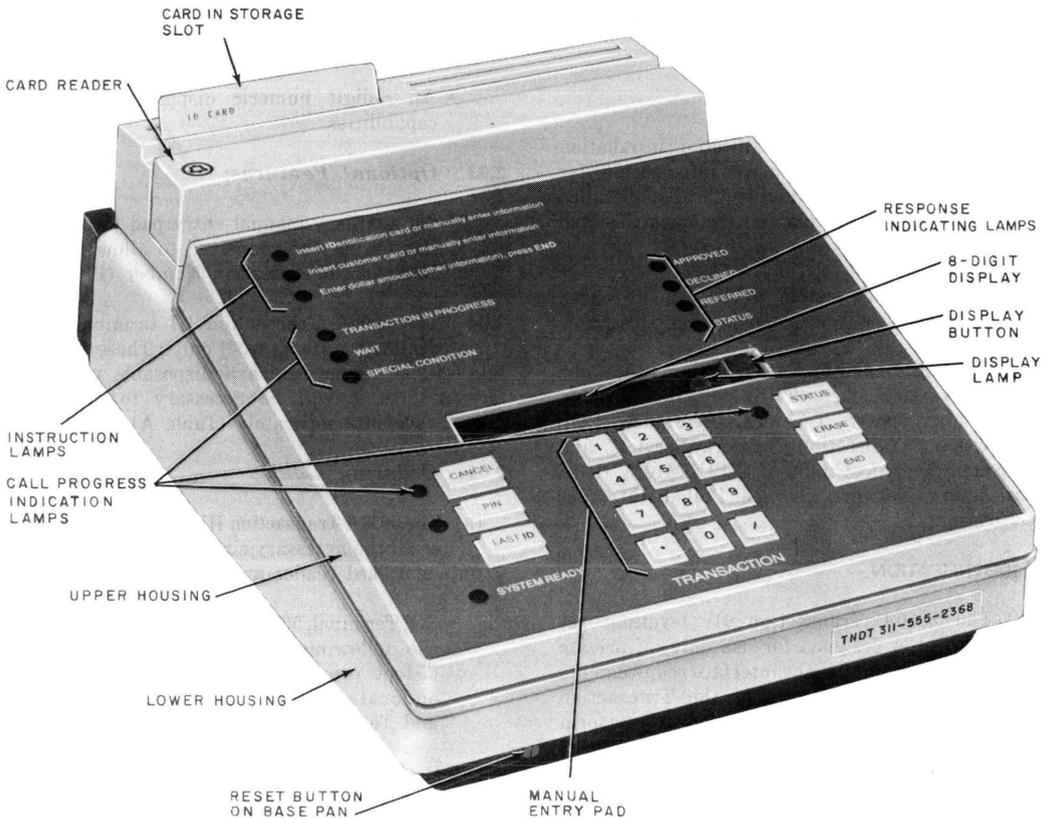

Fig. 1—5000A Transaction III Terminal Set
2.01 The 5000A Transaction III terminal set (Fig. 1) is designed for use only on private line networks. It satisfies the interface requirements of the polled access circuits of the Transaction Network Service. It may be used to perform transactions such as credit authorization, check verification, inventory control, or electronic funds transfer.